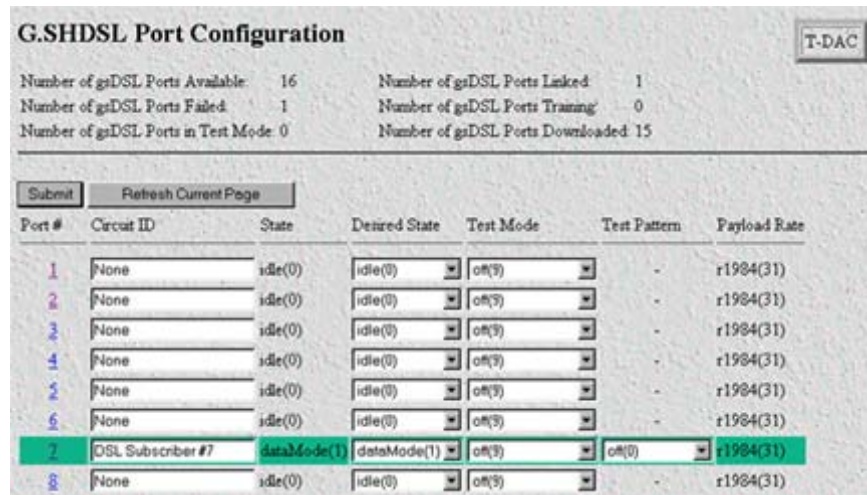

Figure 32. G.SHDSL Port Configuration window
1. On the 3096RC Configuration Menu, click the DSL hyperlink to display the G.SHDSL Port Configuration page (see figure 32). (Optional: Using your mnemonic naming convention scheme, enter a name for this connection in the “Circuit ID” field to the right of the Port # you wish to activate).